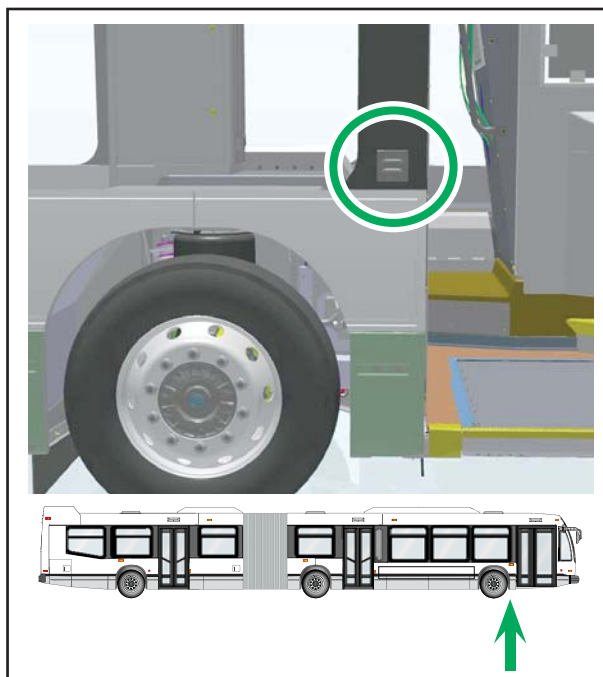

Figure 1 - Exterior Speaker Location
- 1.1. Locate the exterior speaker. See Figure 1.